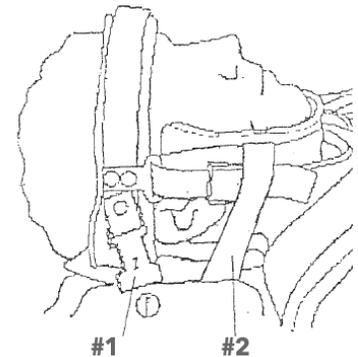

Figure 7: Attaching the occipital support.
9. Apply the occipital support (FIGURE 7) by sliding it under the patient's head and fasten it snugly to the facemask using the four hook and pile straps. The inferior straps are routed through the chafes located on the lower part of the upright to prevent migration of the straps. Raise the patient to sitting position and make fine tuning adjustments as necessary. The facemask should be snug enough to limit teeth separation to not more than 1/2" when opening the jaw. A butterfly clip is supplied to keep the shoulder straps from migrating and is applied where the straps are crossed in the back.